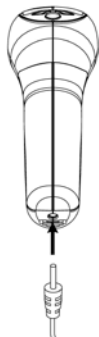

Fig.2
- (1) Plug in the power adaptor to the very end of the handle as sown in Fig.2.